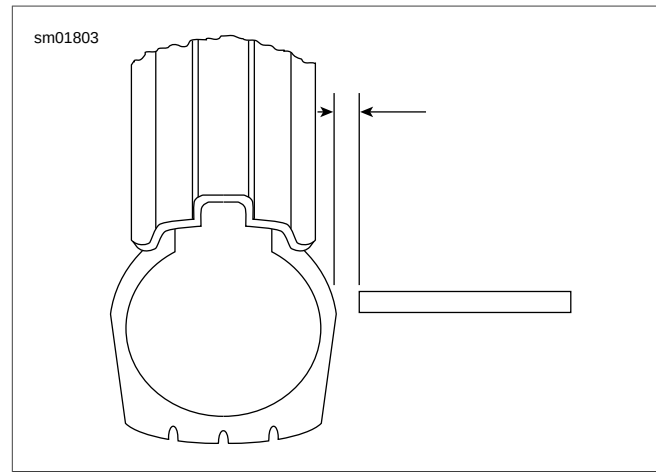

Figure 2-35. Checking Tire Lateral Runout
2. See Figure 2-35. Turn the wheel on the axle and measure tire lateral runout from a fixed point to a smooth area on the tire sidewall. Avoid measuring on raised letters or vents.